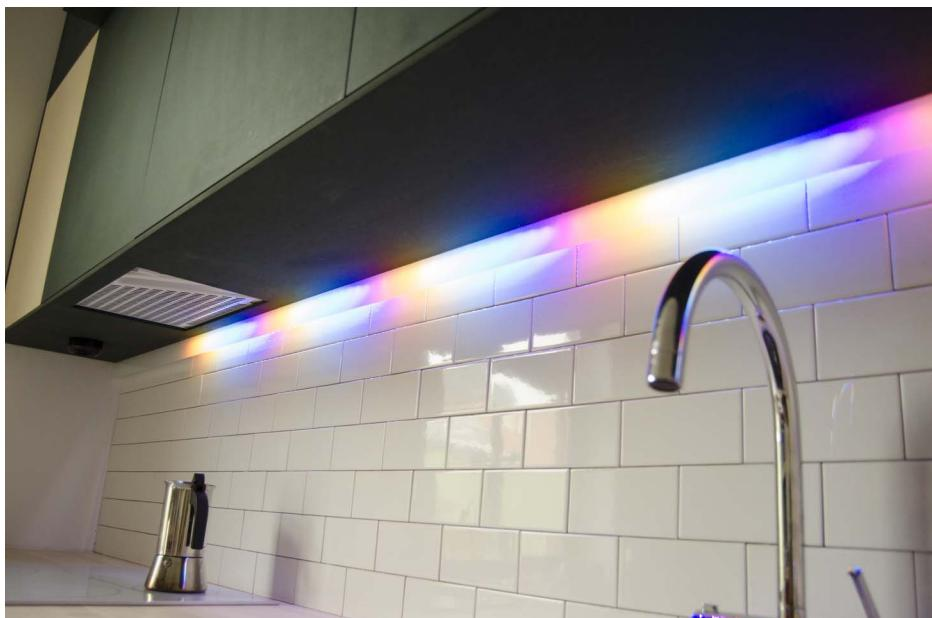

FIGURE 10-2: Lamp acting as VU-meter
- Enable the lamp to be used as a cooking timer showing the amount of time left as a VU-meter (all the lights on is 100 percent of the time, half the lights is 50 percent of the time, and so on). Figure 10-2 is an example of this functionality.